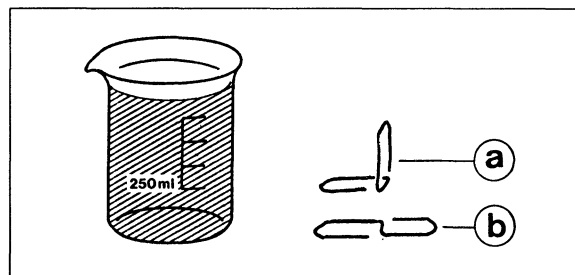
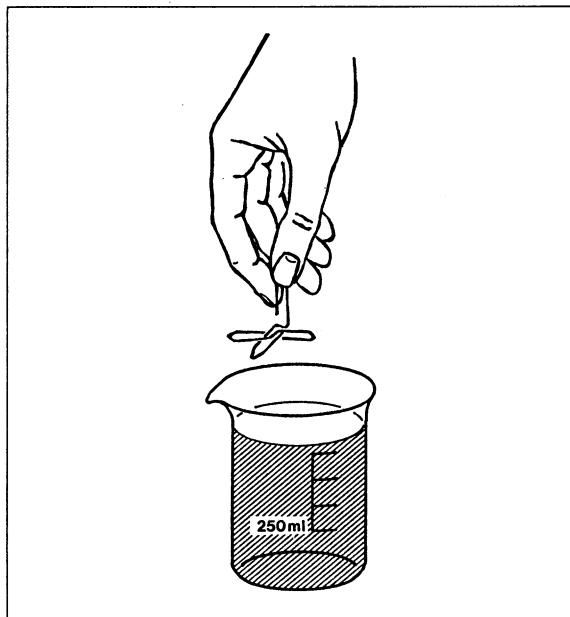

Fig. 1 Investigating surface tension
Fig. 2 Using the support to move the object under investigation.
2. Unbend two paperclips as shown in fig. 1, so they are completely straight.
4. Using the support (fig. 1 (a)), carefully place the extended paper clip (fig. 1 (b) object under investigation) on the surface of the water, as shown in fig. 2.